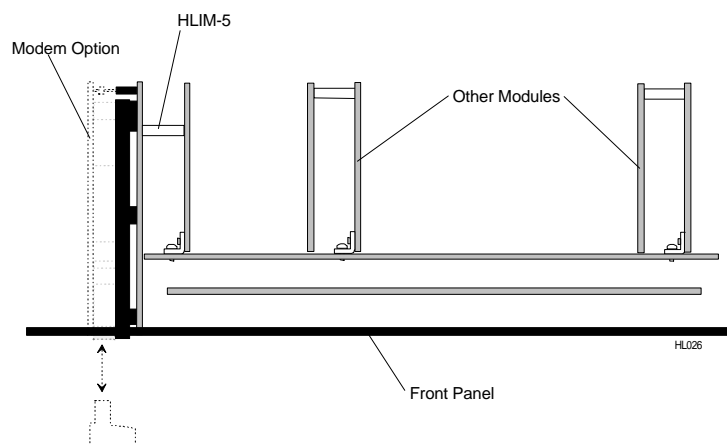

Figure 3... -24: HLIM-5 installation in Port 6
Installation of the HLIM-5 into the HyperLogger System Base is unique in that it has a memory card socket that projects through the front panel of the HyperLogger (Figure 3... -24). For this reason, the HLIM-5 can only be installed into Backplane Port 6.
3. Follow the instructions specified in the Interface Module Installation, page 3-2 to install the HLIM-5 into the HyperLogger Backplane. Note that one circuit board of the HLIM-5 actually fits along the edge of the backplane and nearly touches the metal front panel of the HyperLogger (Figure 3... -24). Upon completion of